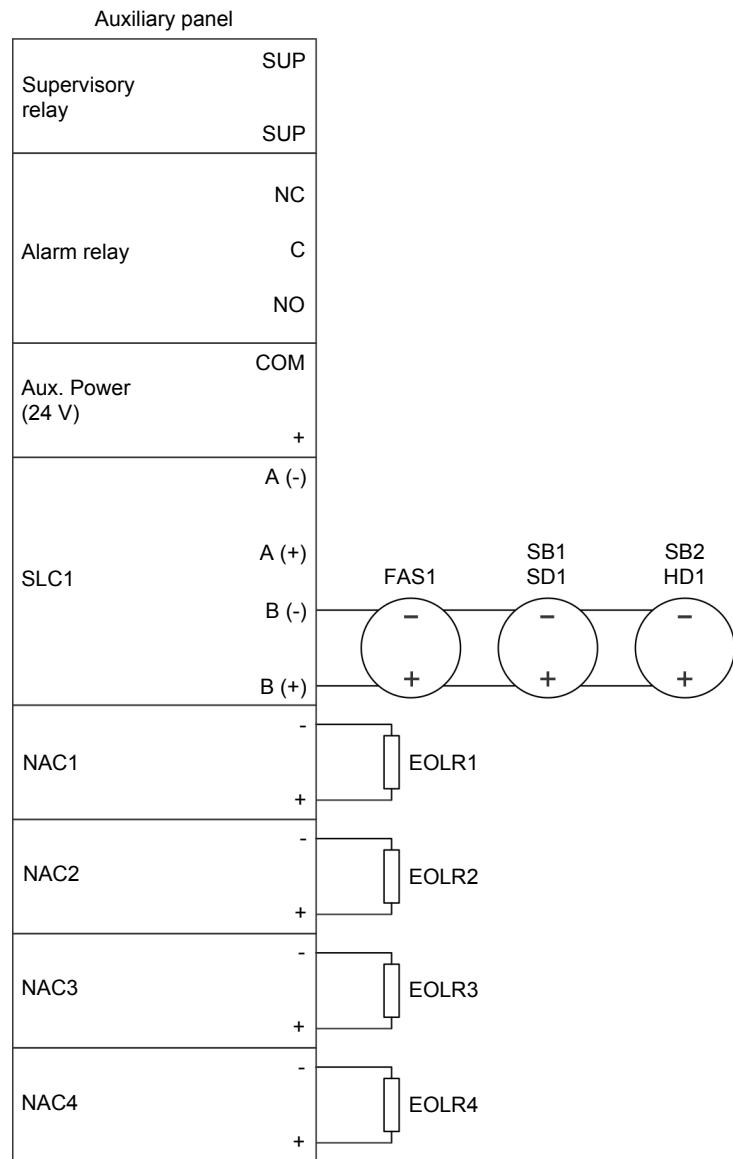

Figure 5. Schematic diagram.
- Install the cables required to connect the circuit shown in Figure 5. Leave enough length for the connections.
- Connect the components as shown in Figure 5. Consult the manufacturer's documentation to know how to wire each device.
The detection circuit shown in Figure 5 is wired in Class B configuration. The wiring classes will be explained in Information Job Sheet 6.
- Install end-of-line resistors EOLR1, EOLR2, EOLR3, and EOLR4 in the auxiliary panel, as shown in Figure 5.